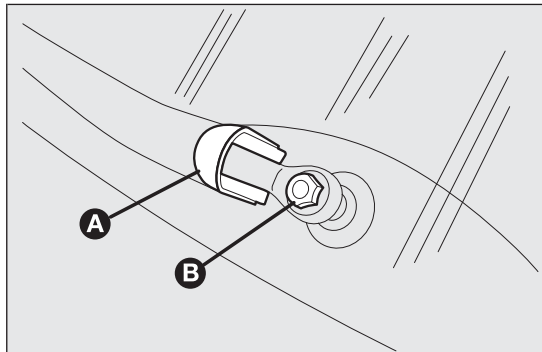

fig. 213
- raise cover A fig. 213 and remove the arm from the car undoing the nut B that fastens it to the pivot pin;